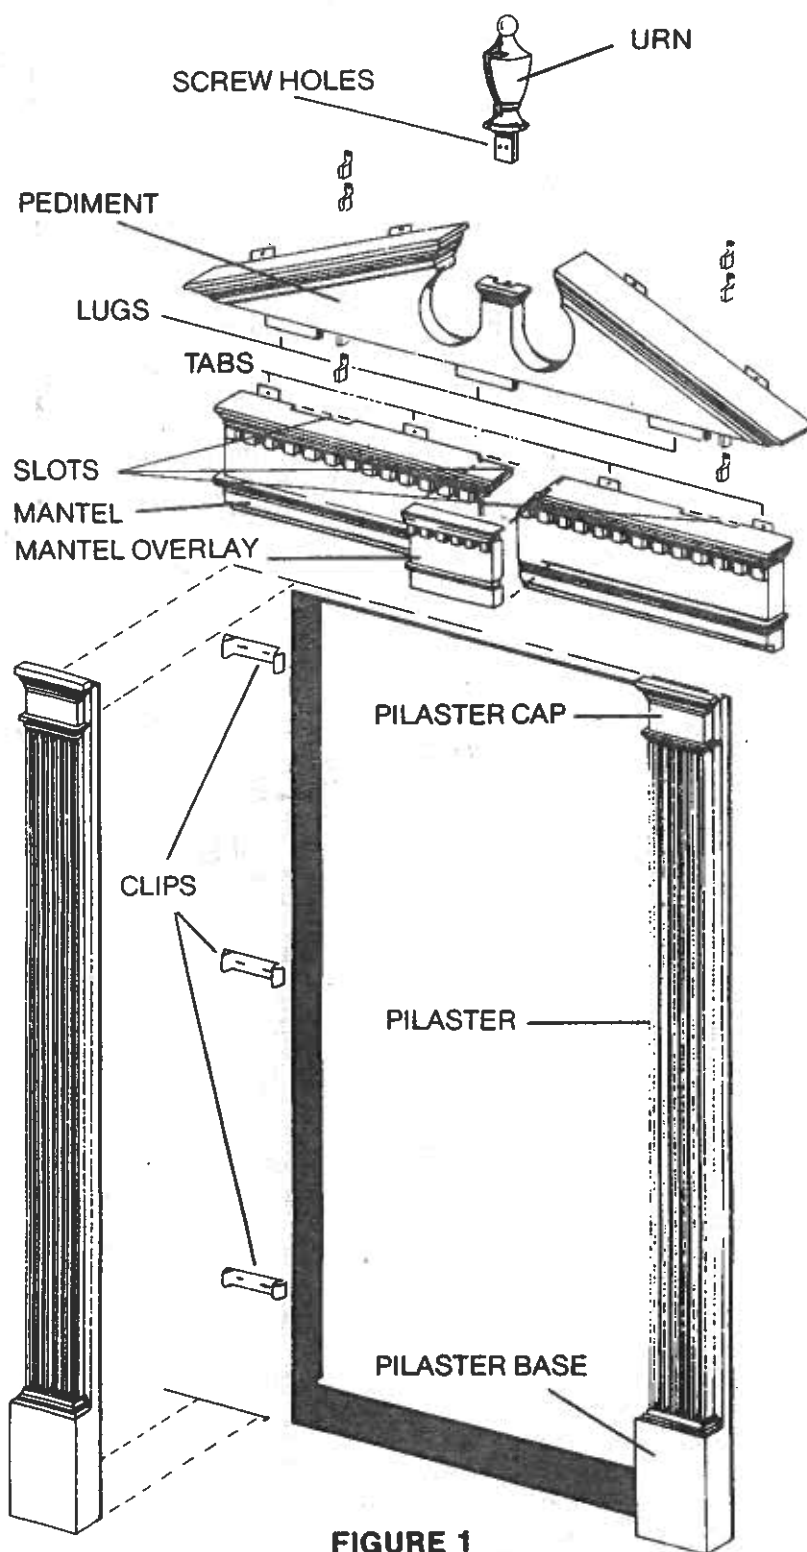

FIGURE 1
(3) Attach the pilaster mounting clips to the wall and install pilasters. (See Figure 1 & 4).